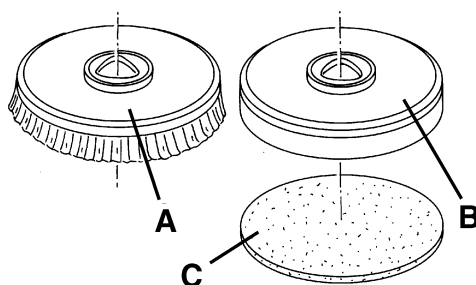

Figure 2
1. According to the kind of cleaning to be performed, the machine can be equipped either with brushes (A, Fig. 2) or pad-holders (B) with pads (C) together with the appropriate deck.
2. Insert the ignition key (80) and turn it to "I".
3. Turn the speed adjuster (84) to idle by turning it counter-clockwise.
4. Place the brushes (A) or the pad-holders (B) under the deck (18).
5. Lower the deck on the brushes/pad-holders by pressing the switch (71).
6. To engage the brushes/pad-holders, press the drive paddle (83) and then release it. If necessary, repeat the procedure until the brushes/pad-holders are engaged.